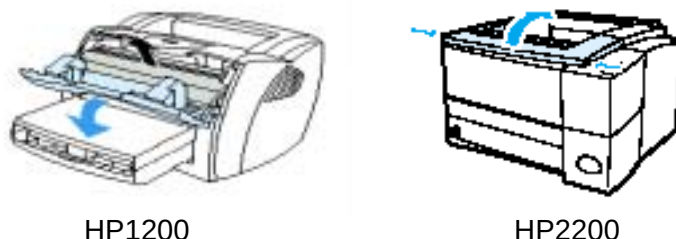

Figure 51. Opening the Toner door
1. Open the toner door and the straight-through output door as shown in Figure 51.